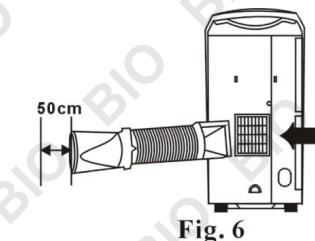

Fig. 6
3. Fix the square end of the exhaust duct to the exhaust port of the unit (Fig. 6).